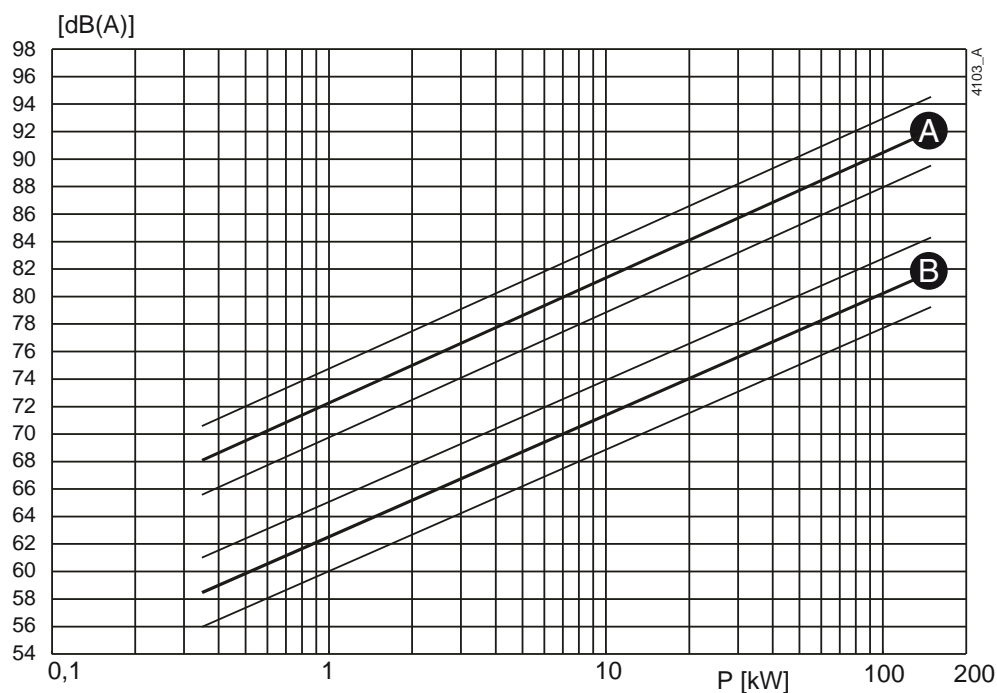
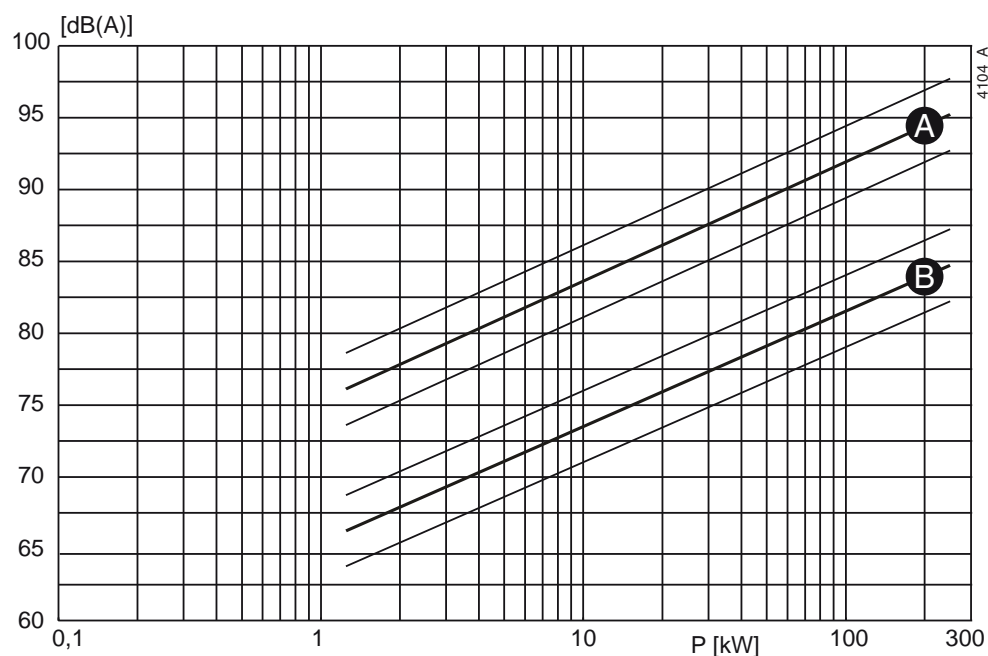

Figure 20: Noise level as function of pump power [kW] at 1450 min⁻¹
Figure 21: Noise level as function of pump power [kW] at 2900 min⁻¹
- 1 Determine the noise level (L_1) of the pump, see figure 20 or figure 21.